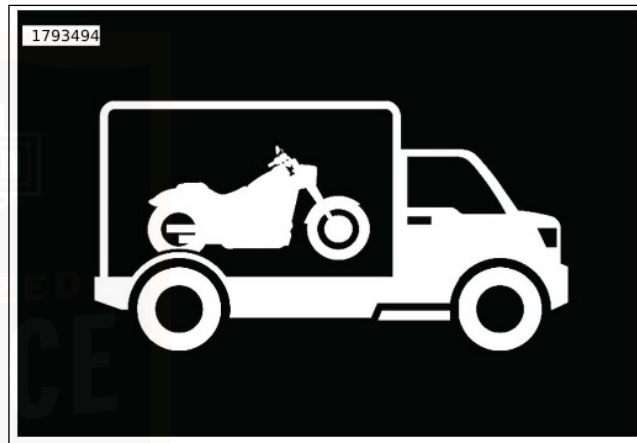

Figure 21. Transport Mode Display
4. See Figure 21. Once activated, a transport mode icon will be displayed on the IFCU to indicate that the security system is in transport mode.